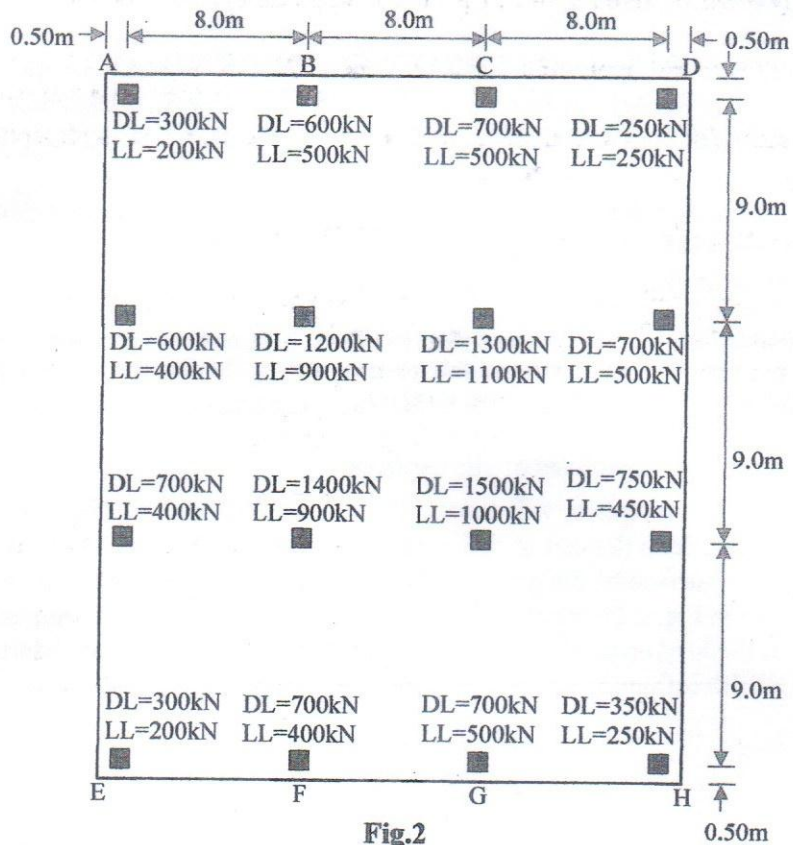

Fig.2
- (b) Compute the foundation depth for a fully compensated mat foundation (30m X 50m) (5) in saturated clay ground having $\gamma_{sat} = 18.8$ kN/m³ to carry dead load of 30.0MN, and live load of 20.0MN. Use, $\gamma_w = 9.8$ kN/m³.
- 3 The plan for a mat foundation with column loads shown in Fig.2. Calculate the soil pressures at points A, B, C, D, E, F, G, and H. All columns are 50cm X 50cm in section. Net allowable bearing capacity is 60.0kPa. Compare the soil pressures obtained at points A to H with the net allowable bearing capacity. Divide the mat into four strips in the long direction and determine the average soil reactions at the ends of each strip. (25)